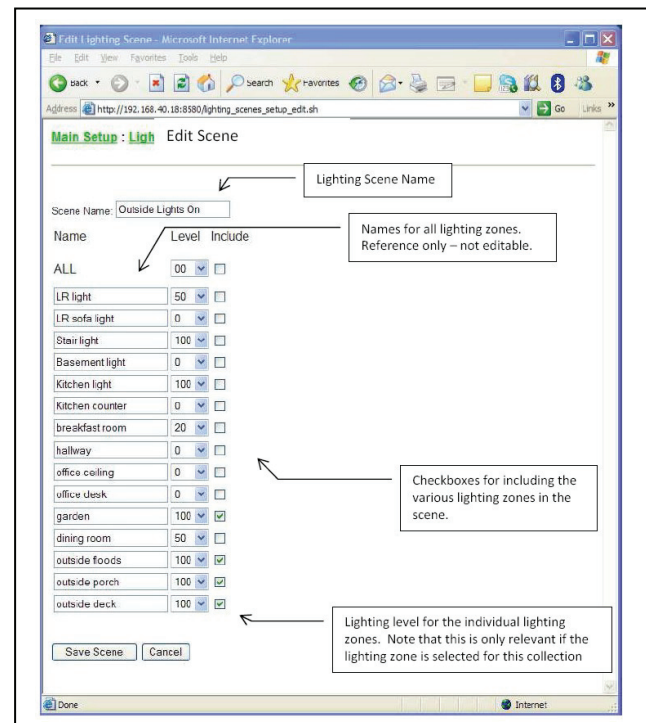

Figure 7
- F. Selecting “Scenes” allows you to create up to 10 “Scenes” (like “Dinner” or “Movie”) where each load that is part of the scene will be at a specific light level. On that screen (see **Figure 7**), you not only select which items to include in the scene, but also decide what the light level should be for each load in that scene. Scenes are very important, because to create an “Event” (basically a timed Scene), you first need to create the Scene that will be associated with that Event.